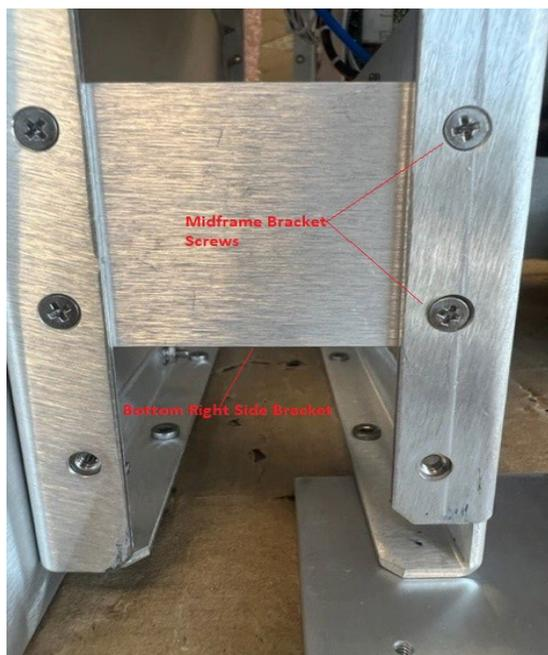

Figure 6
- Carefully remove the two bottom midframe bracket screws (Figure 6). This will allow separation of the right side of the front panel and the midframe.